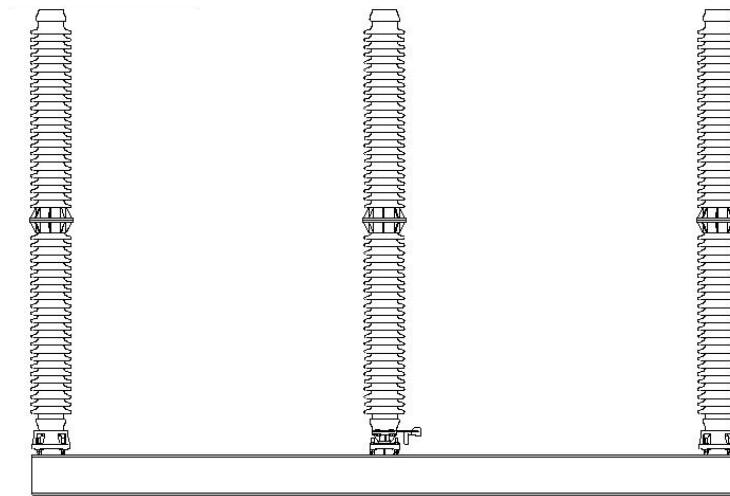

Figure 4: Insulator Mounting
4. Mount the insulators as indicated in Figure 4 using the bolts specified in the field assembly bolt list (SF Drawing). Be sure that the match marks made earlier line up. Check the Unit Assembly drawing; spacers may have to be discarded if a grounding switch is used.